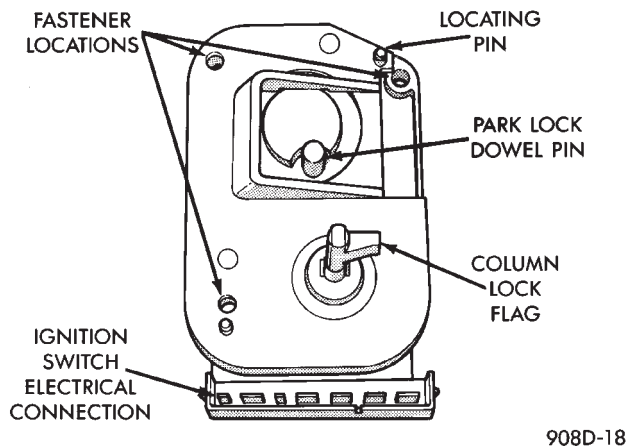

Fig. 9 Ignition Switch View From Column
(1) Connect electrical connectors to ignition switch. Make sure that switch locking tabs are fully seated in wiring connectors.
(2) Before attaching ignition switch to a tilt steering column, the transmission shifter must be in Park position. The park lock dowel pin and column lock flag must also be properly indexed before installing switch (Fig. 9).
(b) Place ignition switch in lock position. The switch is in the lock position when column lock flag is parallel to ignition switch terminals (Fig. 9).